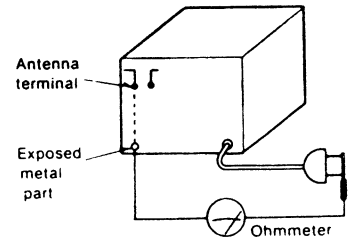

Fig. 1
3. Measure the resistance value with ohmmeter between the jumpered AC plug and each exposed metal cabinet part, such as screwheads, antenna, control shafts, handle brackets, etc. Equipment with antenna terminals should read between $3\text{M}\Omega$ and $5.2\text{M}\Omega$ to all exposed parts. (Fig. 1) Equipment without antenna terminals should read approximately infinity to all exposed parts. (Fig. 2)